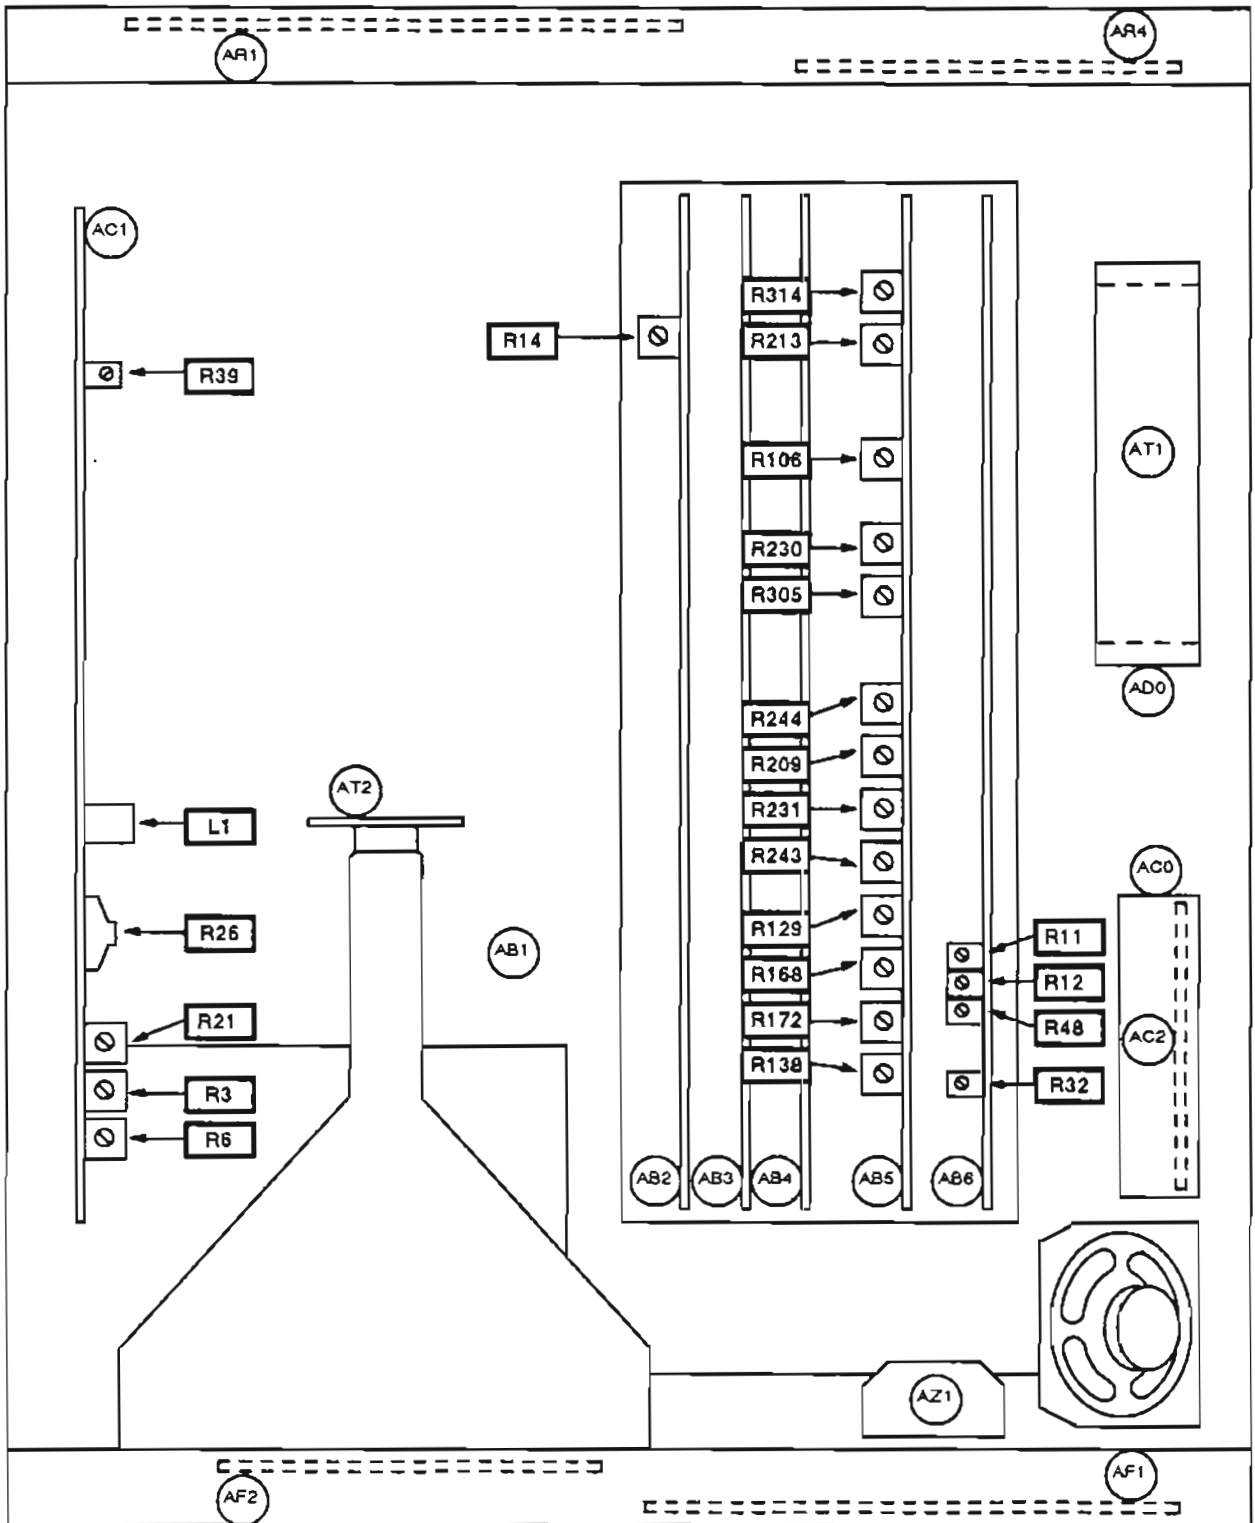

Fig. 1 Adjustment points accessible from above the instrument
5. Tables 1 and 2, which are intended for use with Fig. 1, summarize the various instrument adjustment points. Table 5 shows those for the plug-in boards held in the card-frame while Table 6 shows the remaining, generally less accessible, ones. Fig. 28 is a simplified plan view of the instrument and shows the adjustment points that are accessible from above the instrument while also showing the locations of all boards except those in the r.f. tray. Note however, that in the majority of cases adjustment should only be necessary following component replacement. Adjustments may be made in accordance with the details given under the appropriate board headings, using the equipment specified in Table 1.